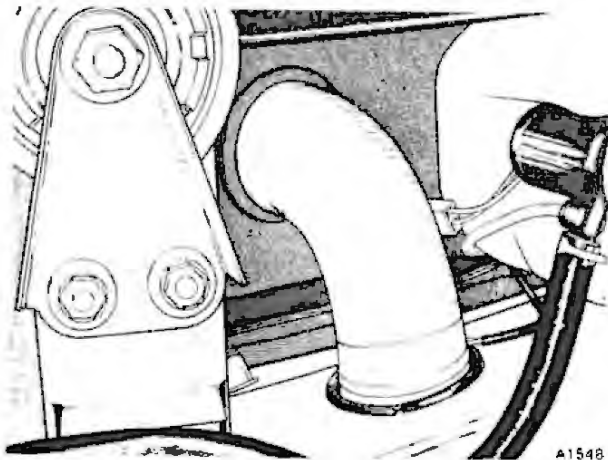
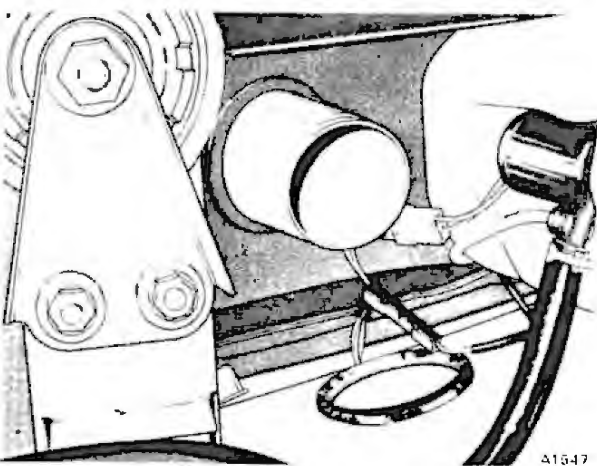

Fig. 1 Cold air pick-up hose - Right-hand side front wing
Fig. 2 Revised cold air pick-up hose - Right-hand side front wing
To alleviate this condition, the cold air pick-up convoluted hose has been detached from its original position on the right-hand side front valance (see fig. 1). The hose is now shortened slightly and allowed to hang vertically, collecting cold air from under the right-hand side wing (see fig. 2).
2. Cut off approximately 63mm (2.500 ins) from the end of the hose and position the hose as shown (see fig. 2).